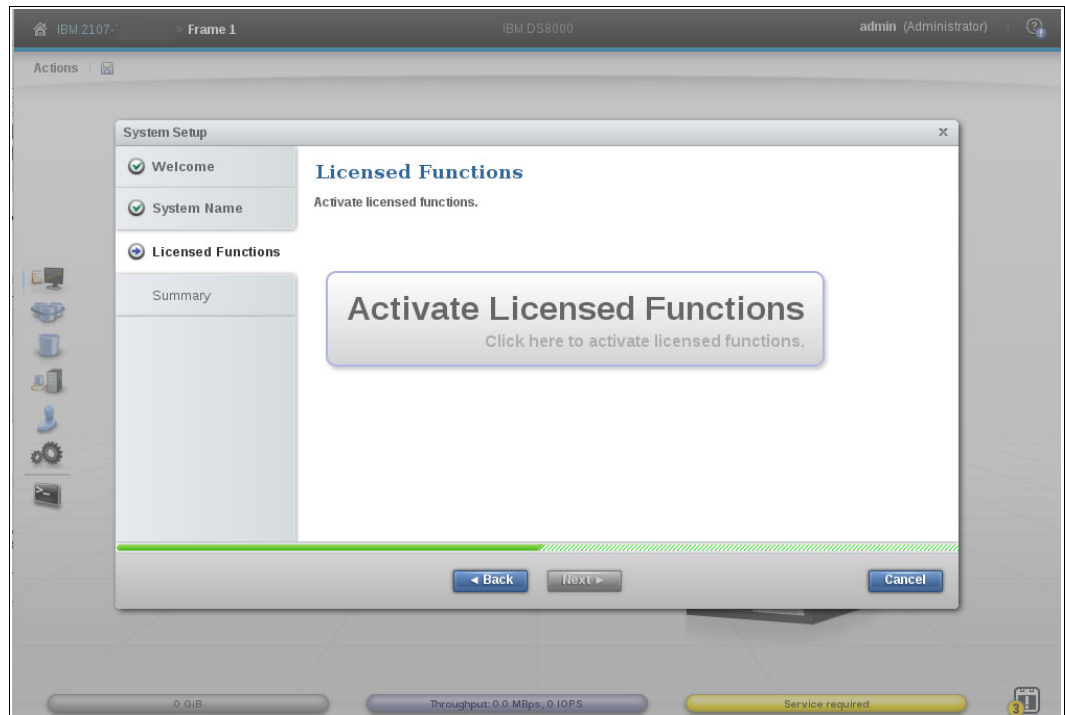

Figure 11-4 System Setup: Licensed Functions window
2. Click **Next**. The Licensed Functions window opens. Click **Activate Licensed Functions** as indicated in Figure 11-4.